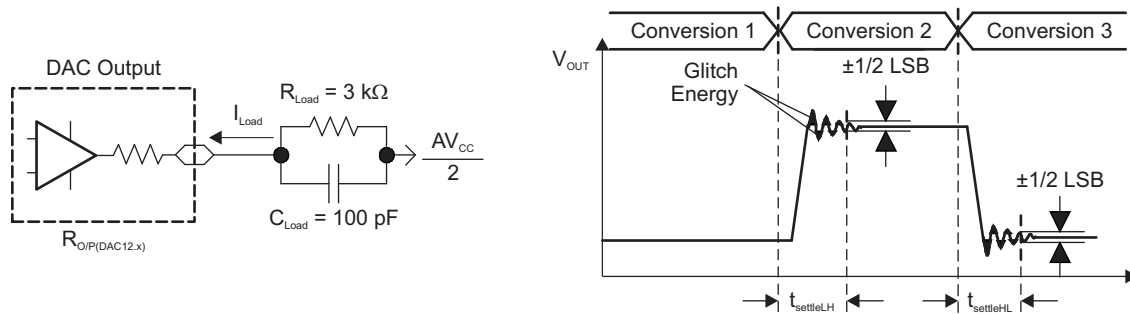
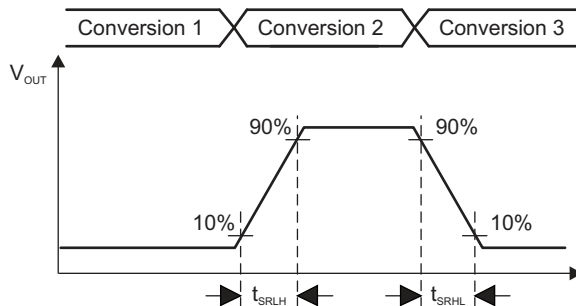

Figure 5-19. Settling Time and Glitch Energy Testing
Figure 5-20. Slew Rate Testing
V_{REF} = V_{CC}, DAC12IR = 1 (see Figure 5-19 and Figure 5-20), over recommended ranges of supply voltage and operating junction temperature (unless otherwise noted)
- (1) R_{Load} and C_{Load} connected to AV_{SS} (not AV_{CC}/2) in Figure 5-19.
- (2) Slew rate applies to output voltage steps ≥ 200 mV.